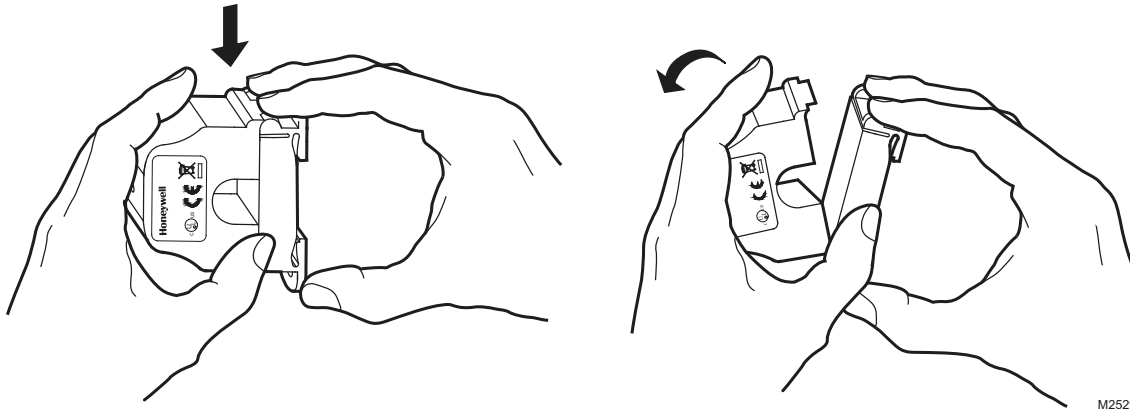
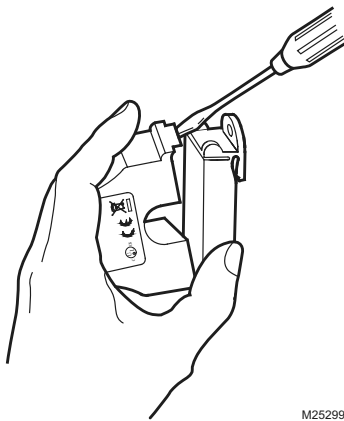

Fig. 6. Opening sensor by hand
Fig. 7. Opening with a screwdriver
Pressing down on the two (2) side tabs and swinging the cover open, opens the split core current switch as shown in Fig. 6. Lifting up the latch with a flat-tip screwdriver as shown in Fig. 7 can also open the unit. Press down firmly on the cover to close the current switch. An audible “click” will be heard as the tab slides over the tongue on the base.